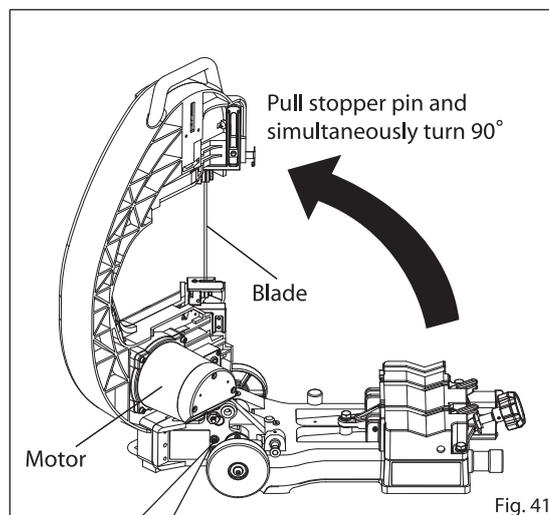
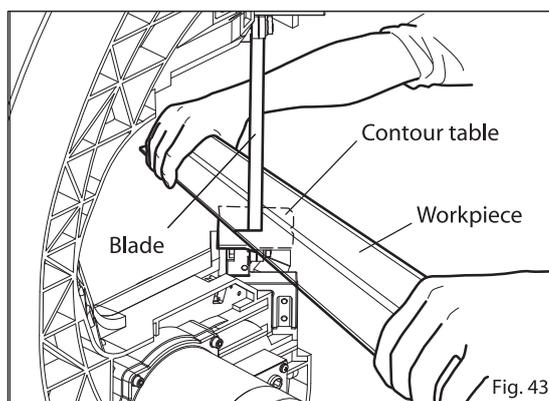

Fig. 41
Fig. 43
1. Contour Cutting (Figs. 41 - 43)
- (1) Pull the stopper pin ring to the left of the motor, while simultaneously holding the handle and lifting the frame so it is vertical. (Figs. 41 & 42)
- (2) Set the ON/OFF switch to the "ON" position. The blade will start rotating.
- (3) Place the workpiece on a contour table and cut it slowly. (Fig. 43)